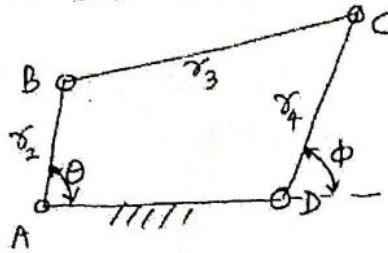

Fig.Q6
- 6 a. For the 4-bar mechanism shown in Fig.Q6, obtain Freudenstein's equation. (08 Marks)
- b. Find r_2 , r_3 and r_4 to generate a function $y = x^3$, $1 \leq x \leq 3$ accurate at $x = 1.1339$, $x = 2$ and $x = 2.866$ if $r_1 = 100\text{mm}$, $\theta_s = 30^\circ$, $\theta_t = 90^\circ$, $\phi_s = 45^\circ$ and $\phi_t = 135^\circ$ with respect to Fig.Q6. (12 Marks)